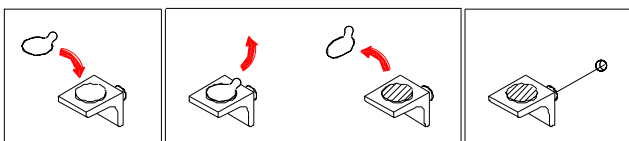

FIG 21
4. Place shelf clip stick tab on each clear shelf clip (Fig 21), then peel off tab so only sticker remains on clip.